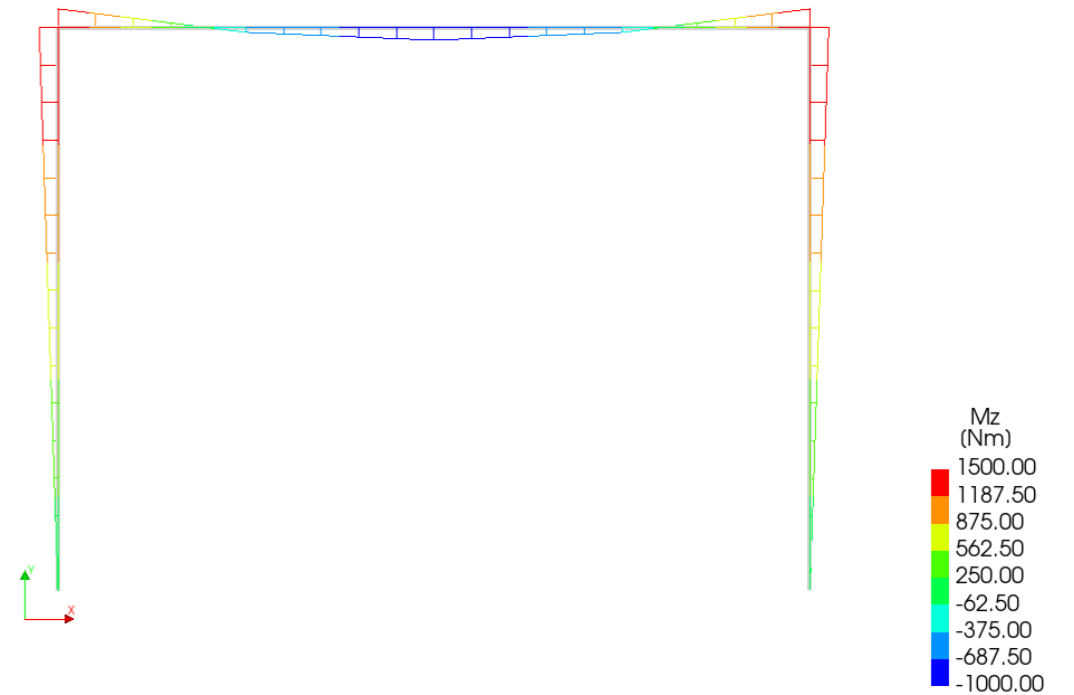

Figure 30: Cross-section moment Mz
**Results browser** → Geometry load combination 4 → Output linear static analysis → Element results → Cross-section Moments → Mz [Fig. 30]